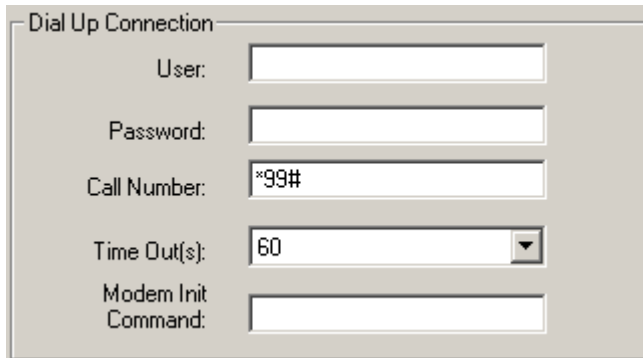

Figure 6-34 Dial Up Connection dialog box
- 3) Enter the call number in the **Call Number** field, as shown in Figure 6-34.